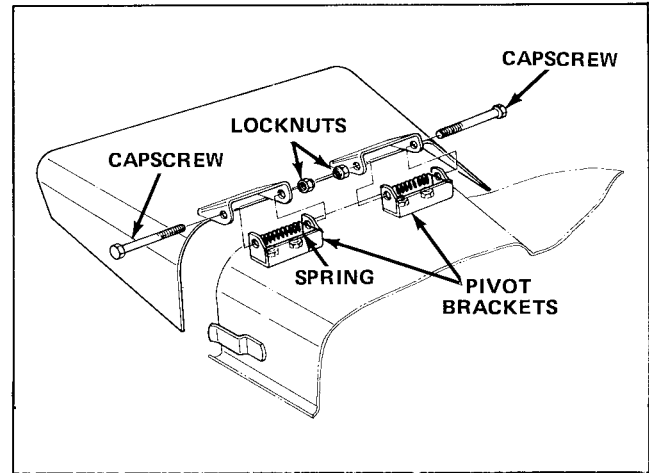

Figure 30
2. Remove two capscrews, locknuts and springs securing deflector mounts to pivot brackets (Fig. 30).
3. To remove the pivot brackets, remove carriage bolts and nuts (Fig. 30).